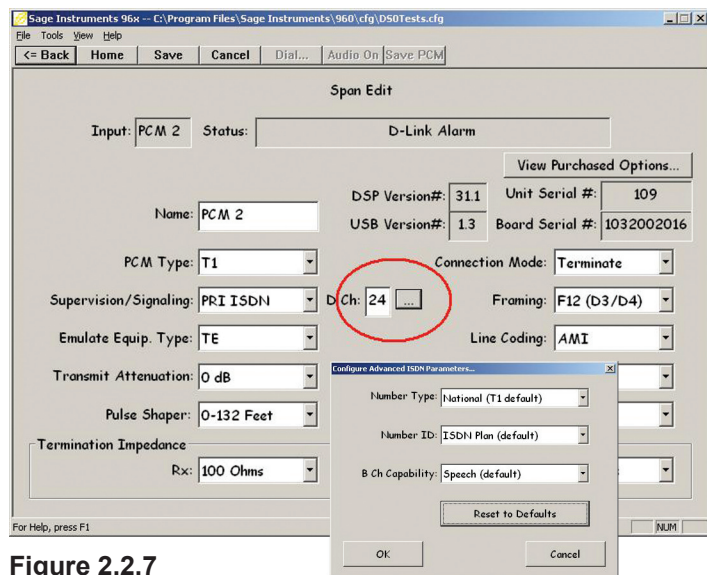

Figure 2.2.7
1. Also in the configure span window for the ISDN D Channel test advanced parameters can be set for the ISDN D Channel. Next to the supervision/ Signaling menu in the middle of the window is a text box labeled “D Ch:” displaying channel 24 or 16 as the default. Use this box to change to the desired channel (see figure 2.2.7).